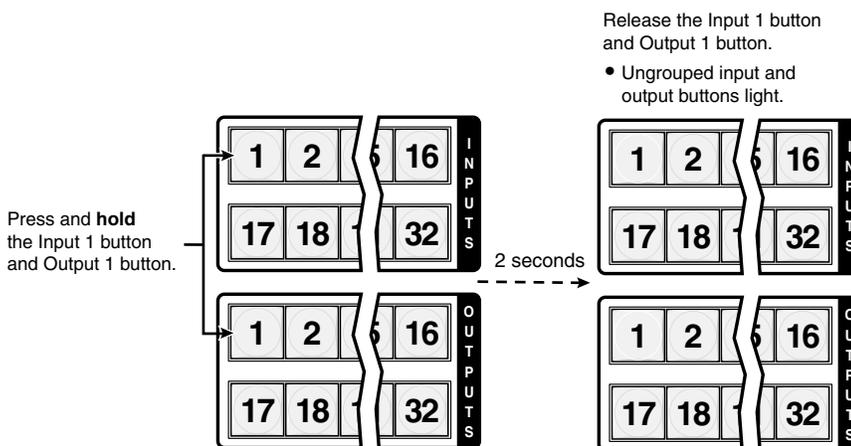

Figure 3-31 — Select I/O Group mode
2. To enter *I/O Group* mode, press and **hold** the Input 1 and Output 1 buttons for approximately 2 seconds and then release the buttons (figure 3-31).